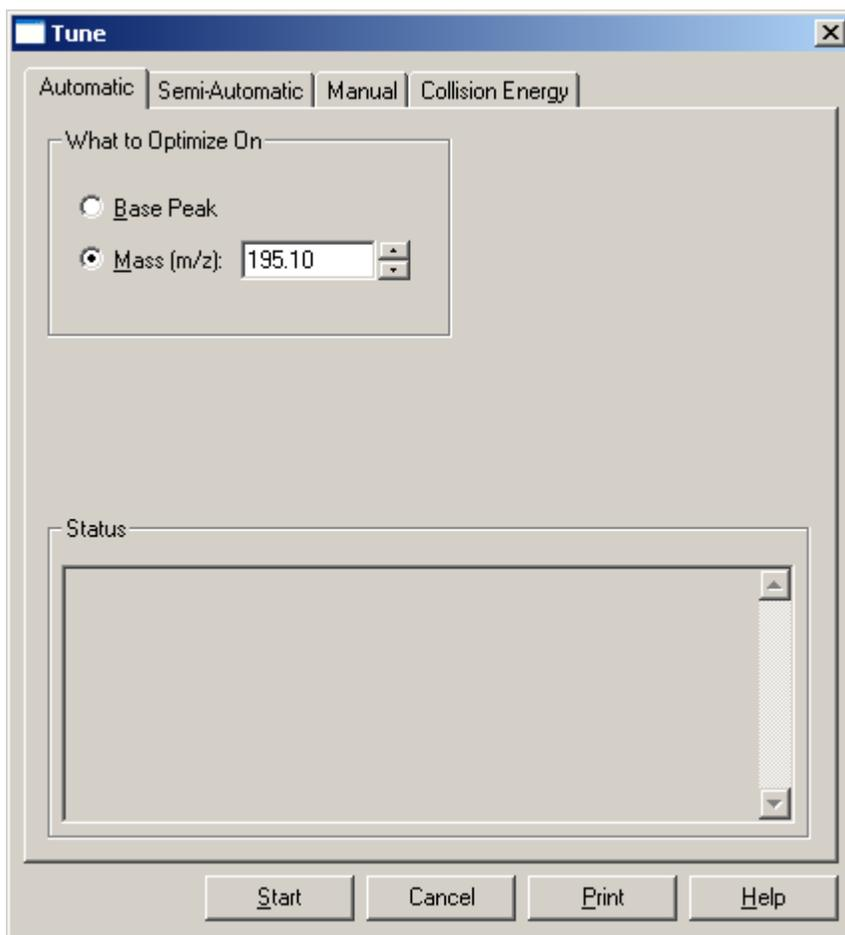

Figure 23. Tune dialog box, showing the Automatic tuning page
2. If necessary, click the **Automatic** tab to display the Automatic tuning page. See Figure 23.